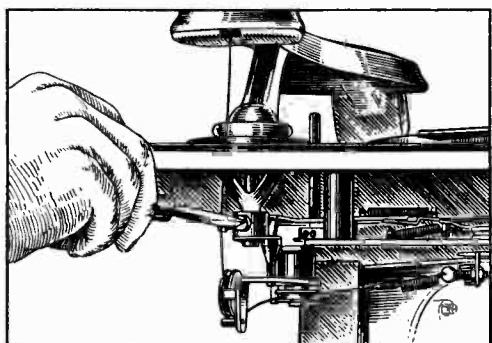

Figure 5—Adjusting position of tone arm
- (a) **Improper Tone Arm Setting.** Loosen the set screws as shown in Figure 5. With the mechanism out of its cycle, press the locating lever at a point near the flat spring until the lever strikes the stop screw. Holding the locating lever, Figure 17, in this position, move the front portion of the trip lever, Figure 15, until the pin against which the flat spring presses, is making contact with the locating lever. Holding the two levers in this position, move the pickup arm until the needle is  $\frac{1}{16}$ " from the first groove of a standard 10-inch record. Now retighten the two set screws shown in Figure 5.